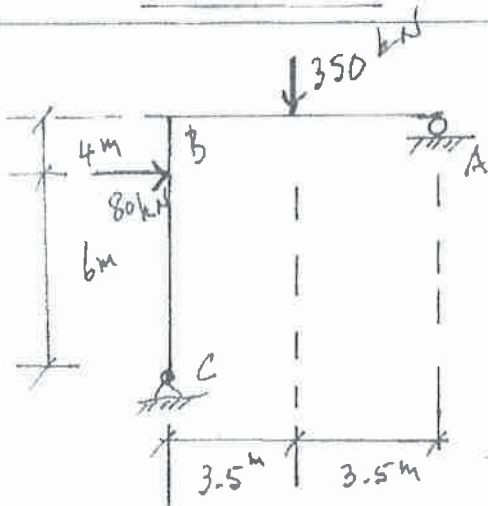

FIG. B1
- B1. Figure B1 shows the profile of a determinate reinforced concrete frame, ABC. Design a rectangular cross-section and the reinforcing for flexure and shear of the column BC. Show the layout of the reinforcement. (Use $f'_c = 35$ MPa and $f_y = 400$ MPa).